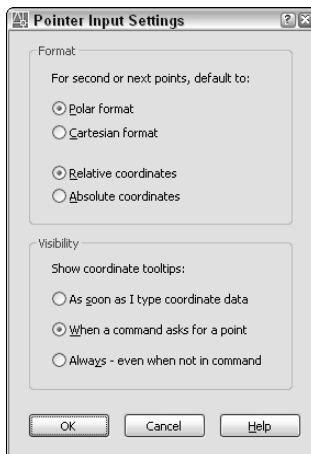

Figure 4-4: The Pointer Input Settings dialog box sets important options for Dynamic Input.
- ♦ **Default format for second or next points:** You can choose to default to polar or Cartesian format. The default is polar format, which shows distances. I explain polar format in the “Polar coordinates” section later in this chapter. You can also choose between relative and absolute coordinates, as shown in Figure 4-4. The default is relative coordinates, which indicate a distance and direction from a previously specified point. I explain both absolute and relative formats in the next few sections of this chapter.